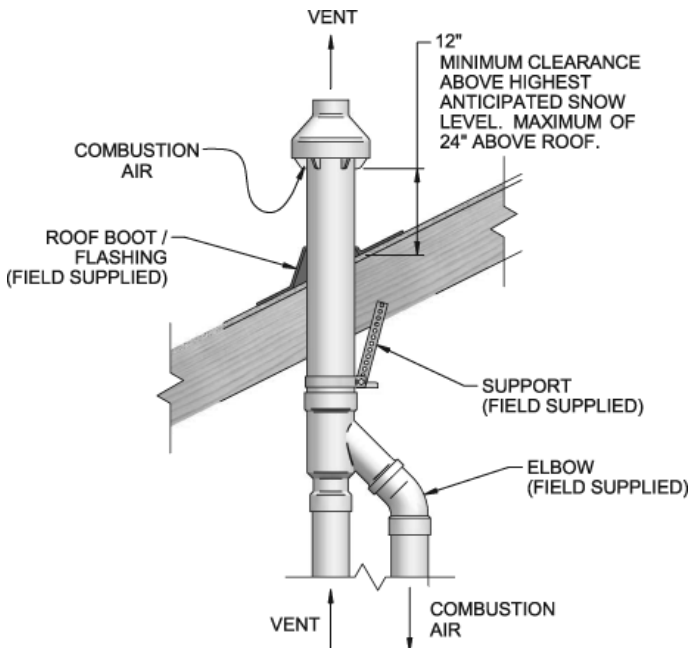

Figure 49. Concentric Vent Roof Installation
5. Secure the assembly to the roof structure as shown below in Figure 49 using field supplied metal strapping or equivalent support material.
7. Cement the appliance combustion air and vent pipes to the concentric vent termination assembly. See Figure 49 for proper pipe attachment.
8. Operate the appliance through one (1) heat cycle to ensure combustion air and vent pipes are properly connected to the concentric vent termination connections.